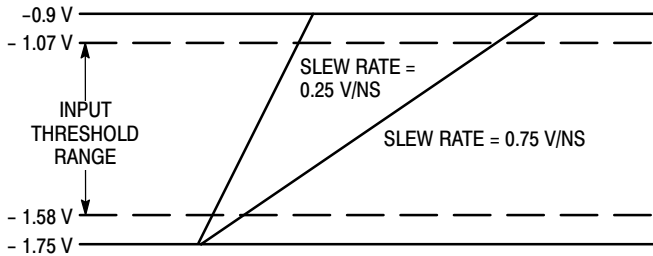

Figure 4. ECL Dispersion Test Input Conditions
6. Refer to figure 4 and note that the input is at 850mV ECL levels with the input threshold range between the 20% and 80% points. The delay is measured from the crosspoint of the input signal and the threshold value to the crosspoint of the Q and \overline{Q} output signals.
Figure 4 and Figure 5 define a range of input conditions which incorporate varying input slew rates and input voltage overdrive. For input parameters that adhere to these constraints the propagation delay can be described as: